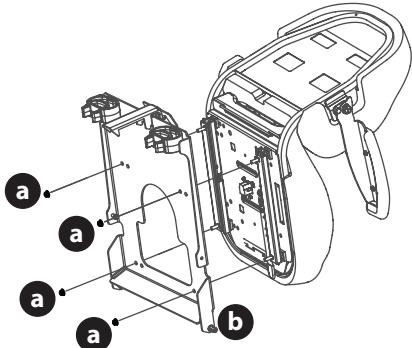

Figure 7
- Install the seat onto the seat pan (b) using flange lock nuts (a) (Figure 7).